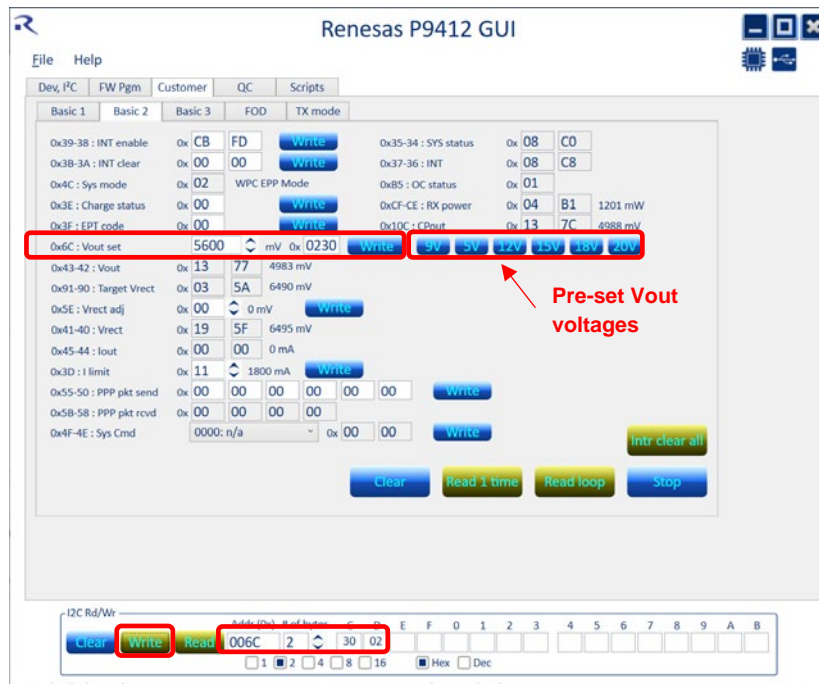

Figure 14. VOUT Adjustments Can be made in Three Ways
| Figure 14. | VO _{UT} Adjustments Can be made in Three Ways..... | 14 |
- Reciprocally, register 0x6C (valid for FW37 and above) is used to set the value of VOUT, as shown in Figure 14. Any register can be read (or written assuming it is a writeable register) from the I2C reg Rd/Wr tool at any time. Address is the starting address and the number of bytes should be specified prior to clicking “Read” for read, or “Write” for write operations.